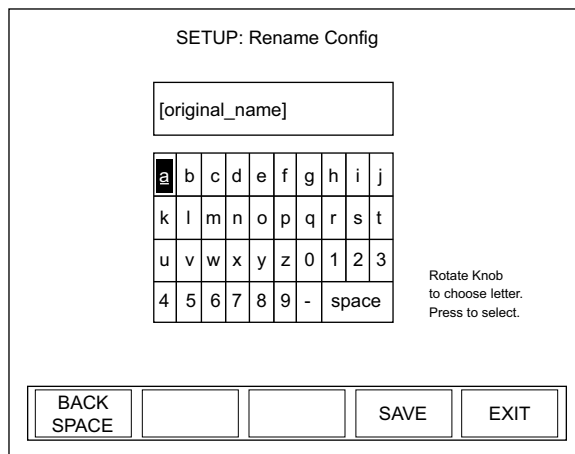

Figure 4-66. SETUP: Rename Config
3. Press the BACKSPACE soft key to erase the old file name (labeled original_name in Figure 4-66).